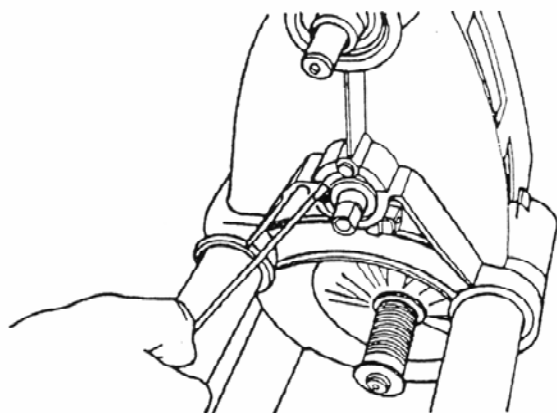
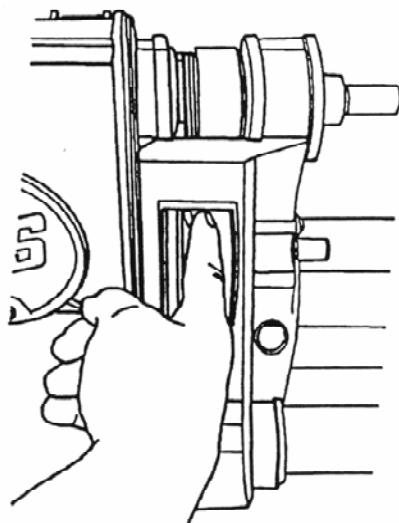

Fig. 17
Fig. 18
8. Tension the Poly V-belt. Before you tighten the hex socket capscrew, lock washer, and square nut that secure the eccentric bushing in the headstock, tension the Poly V-belt. To tension, insert a blade screwdriver in the slot of the eccentric bushing and turn the bushing clockwise in the casting until it stops. See Fig. 17. With your fingers push in on the Poly V-belt as demonstrated in Fig. 18. If you can push the belt in more than 1/8" when applying heavy pressure, the belt needs to be retensioned. Retighten the 1/4" socket capscrew when proper tension is achieved. Do not overtighten the capscrew. Only tighten it until you can no longer rotate the eccentric bushing.